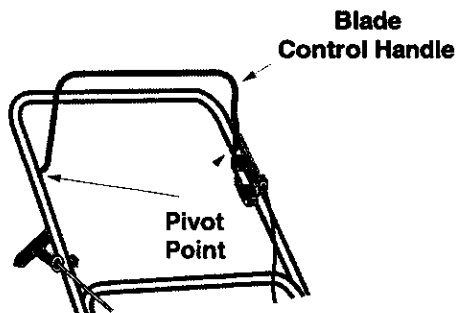

Figure 20
**Blade Control:** Lubricate the pivot points on the blade control handle and the brake cable at least once a season with light oil. See Figure 20. The blade control must operate freely in both directions.